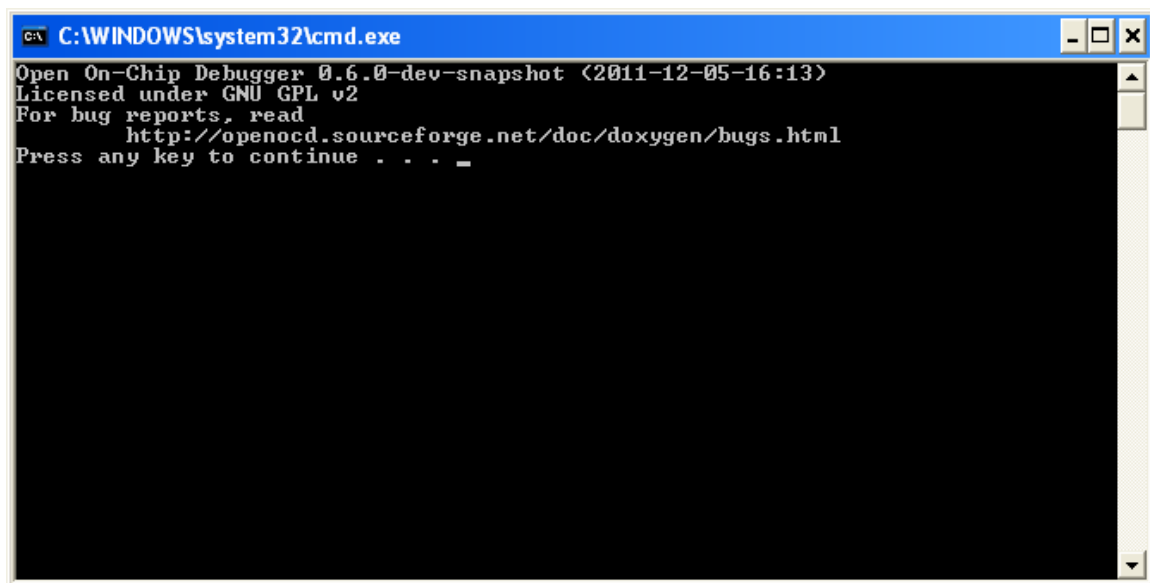

Figure 7 Download complete
4. A command window should popup as shown in Figure 7. Wait about 12 seconds until the window shows “Press any key to continue...”. If the firmware file size is bigger than the SN82xx’s flash size, an error message is displayed.